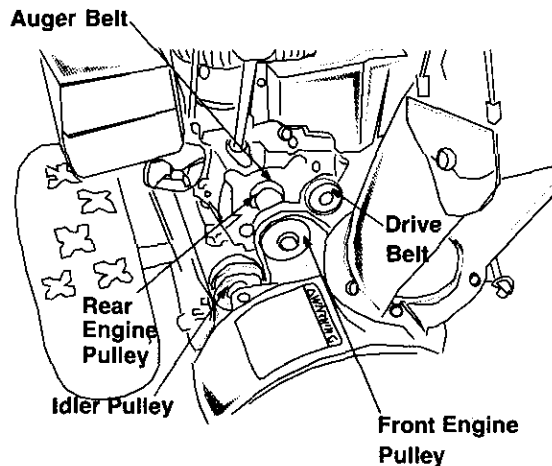

Figure 27
- Remove the two belts from the two engine pulleys. For location of the pulleys, see Figure 27.
- Pull the idler pulley away from the drive belt and remove the belt from the engine pulley. You will find the idler pulley in front of the engine and under the belt cover that you removed earlier. See Figure 27.